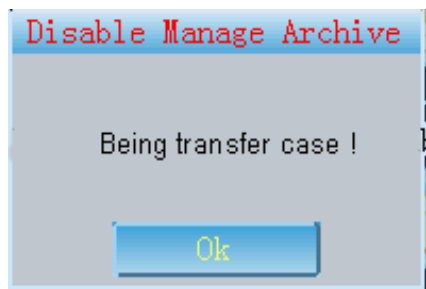

Fig. 13-10-3
- 4 After the synchro analyse software is started, when you need to upload case, click Archive Management function, the interface as Fig.13-10-3 will appear.